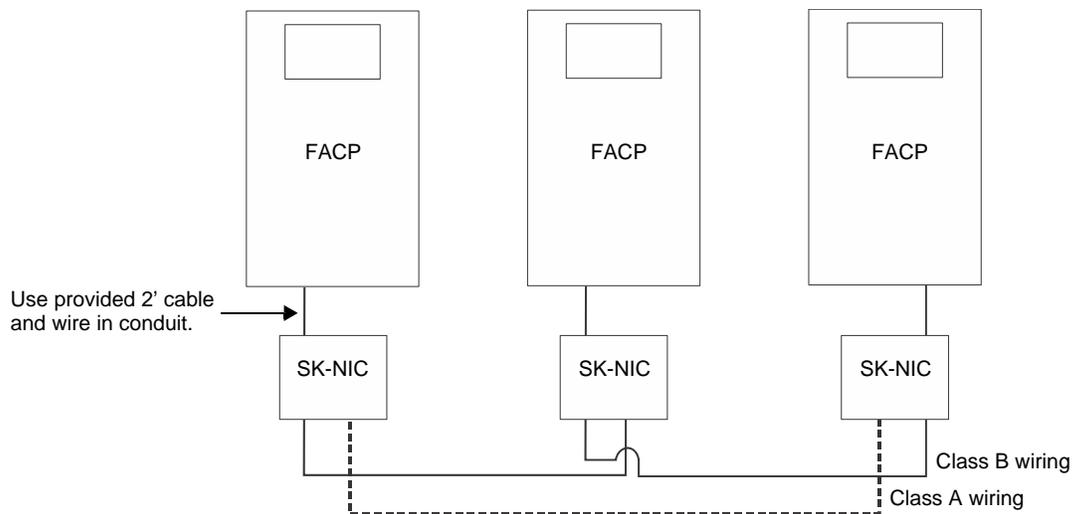

Figure 5.1 External SK-NIC Wiring Option
When linking in a group of 6700 panels, you must use the SK-NIC to link the panels together. See Figure 5.1 for external mounting of SK-NIC option.
- Use the 6-pin cable included with SK-NIC to connect the 6700 to the SK-NIC. The 6-pin cable must be run in conduit between cabinets. Refer to Figure 5.1.